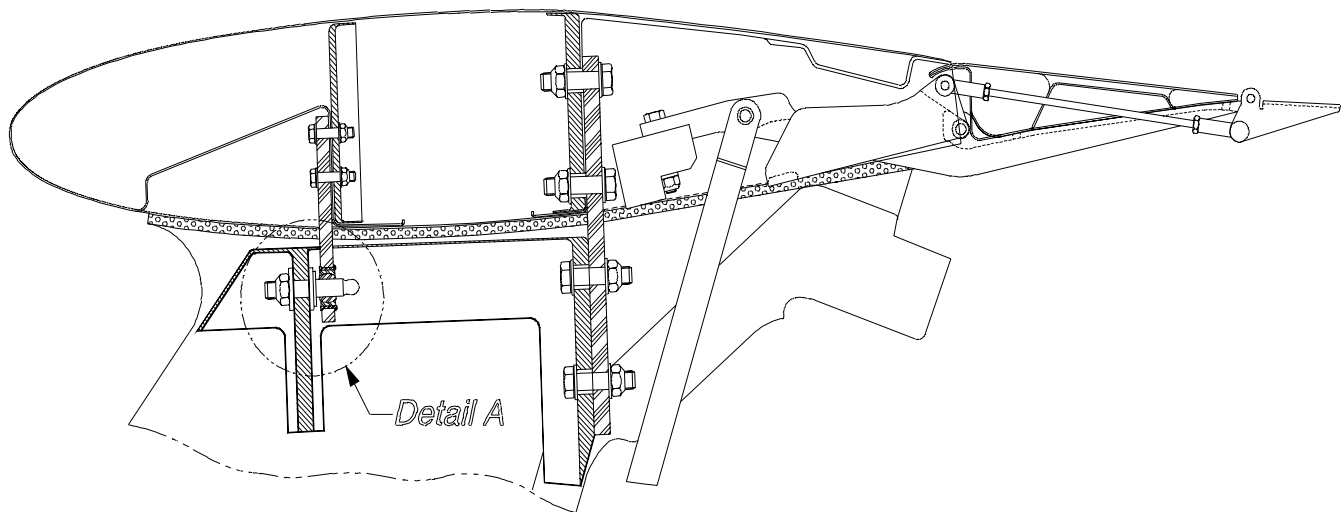

Figure 1. Horizontal Stabilizer Forward Mount Attachment (Ref. Detail A).
Attached Figure 1.
- 10.2 Use a flashlight and inspection mirror to inspect the forward stabilizer mount assembly through the rudder balance cut out in the vertical stabilizer for the presence of the retaining ring (ref. DA20 Parts Catalog, attached figures 1 and 2).